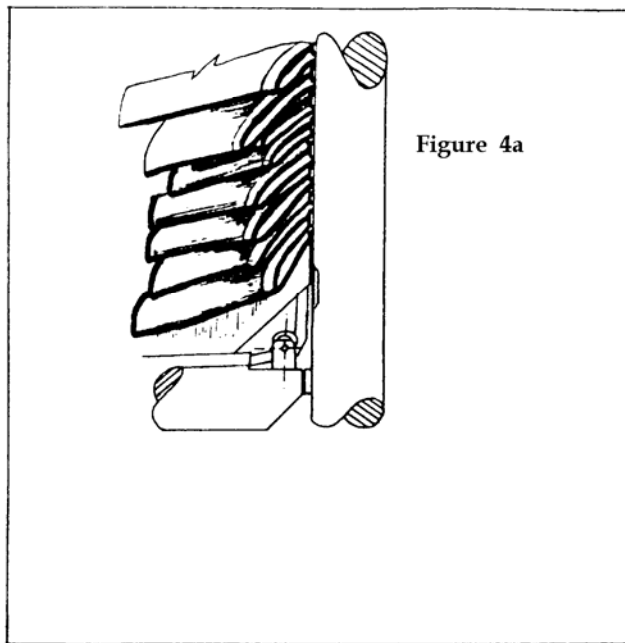

Figure 4a
- Install (bend) mainsail on to mast and boom. (Fig. 4a)
NOTE: For your StackPack to function correctly, the slide gate on the mast must allow slides to stack up directly above the tack fitting. This insures that the stacked height of the slides will be low enough to allow the acrylic cover to be zipped closed after the sail has been lowered. See Figure 4a.